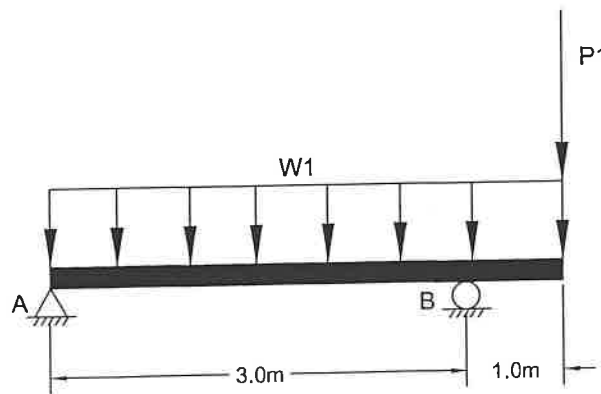

FIGURE C1
- C1. Design the wood beam shown in Figure C1 assuming it is in a wet condition and is to be made using standard dimensional lumber (built-up members). Assume the beam is repeated along the length of a building at a spacing of 0.9m. Assume the available wood is SPF No. 1 or 2.